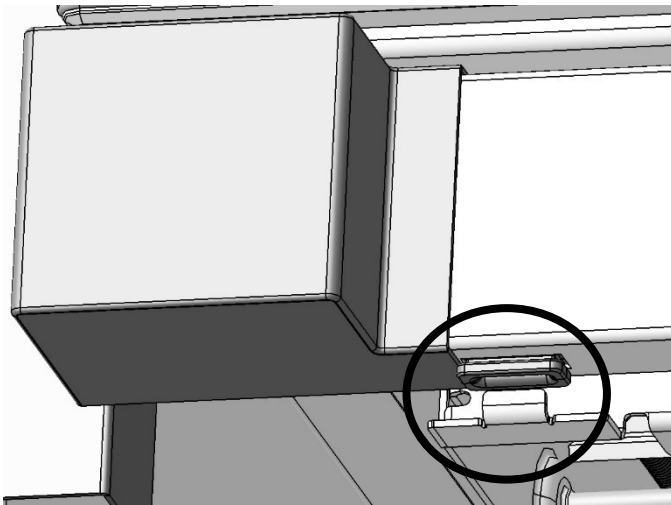
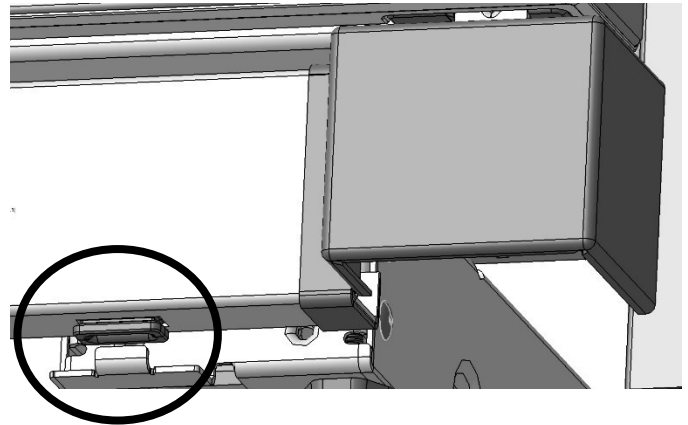

Figure 23
Figure 24
- b. Carefully place the Toe Kick over the two Leveler Assembly Slots. The first Leveler Assembly slot is circled in Figure 23, and the second Leveler Assembly slot is circled in Figure 24.